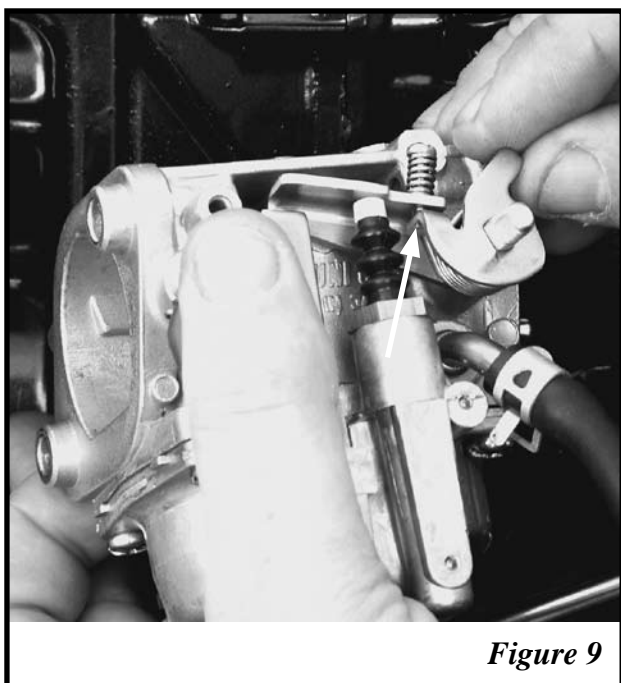

Figure 9
1. Throttle Arm (Modified) (Figure 9)